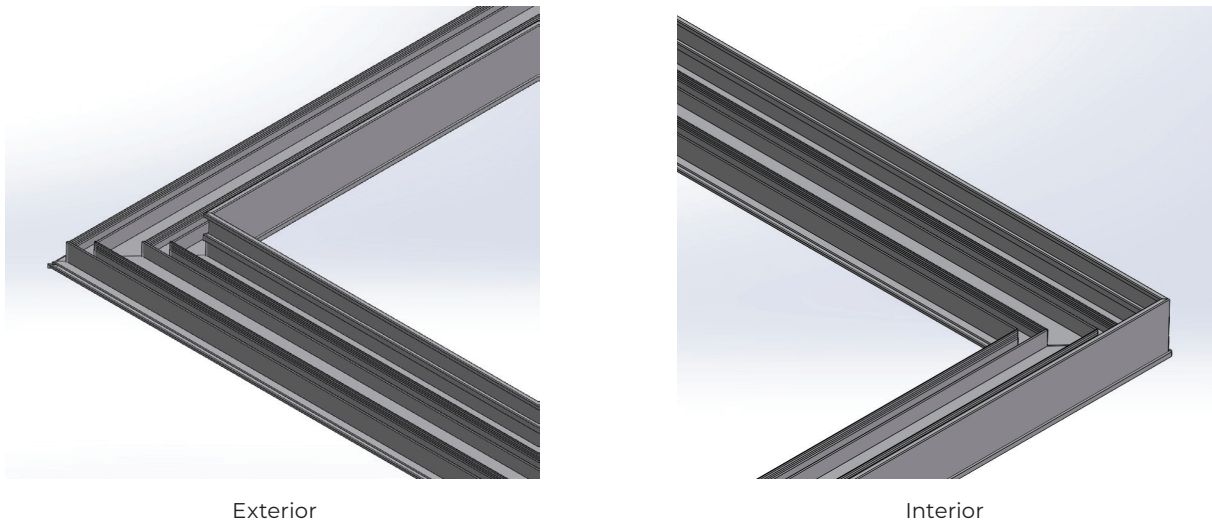

Figure 18
1. **Corner** door main frames will meet at a 90° corner (either inside or outside) (See Figure 18)